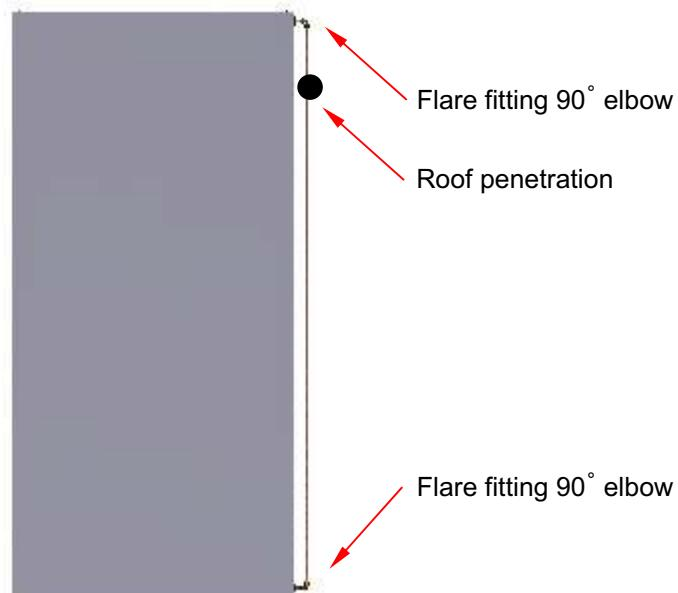

Fig. 6.4.1 – One collector configuration.
1. Install collector immediately next to roof-penetration such that line-set can be covered by side-flashing (Fig. 6.4.1).